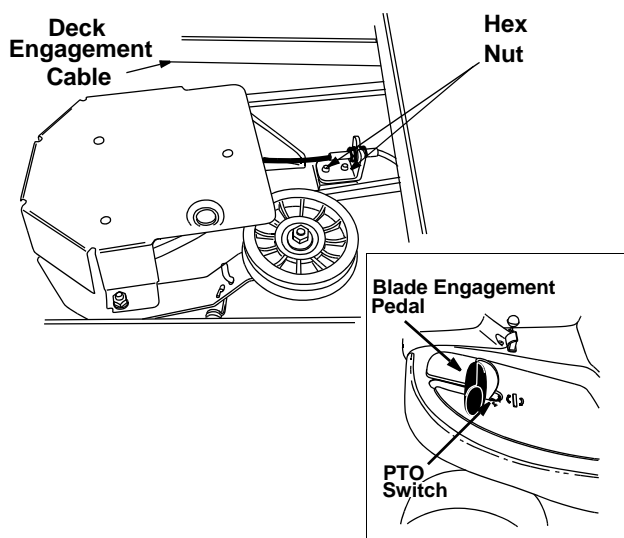

Figure 12
- Loosen, but do NOT remove, the hex nut found on the right side of the brake assembly. See Figure 12.
The blade engagement pedal should be adjusted so that if you depress it about 3/4" from the front of the slot, it should start engaging the deck belt. The PTO (power take off) switch is located in the blade brake slot on the left side of the upper frame. See Figure 12 . The brake engagement pedal needs to make contact with the PTO switch for the engine to start.
Adjustment to the blade brake will have to be made at the cable end. See Figure 12.
- If the belt is slipping when you depress the blade engagement pedal about 3/4", loosen the two hex nuts on the cable. See Figure 12.
- If the belt is engaging sooner than when the blade engagement pedal is 3/4" from the PTO switch, tighten both hex nuts on the cable. See Figure 12.